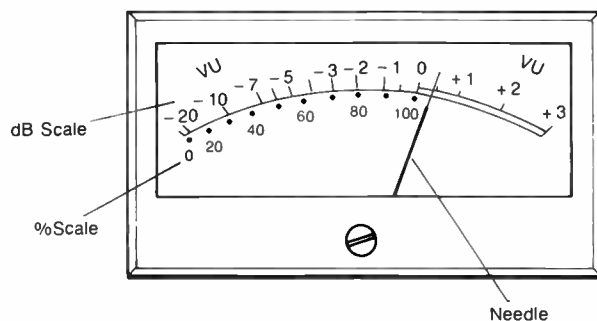

FIGURE 4.6 Standard VU meter.
Another place the signal is sent after program amplification is the **volume unit indicator (VU meter)** (see Figure 4.6). This is a metering device to enable the operator to determine what level of sound is going out the line.
- In Figure 4.6, 50% on the scale is roughly equivalent to _____.